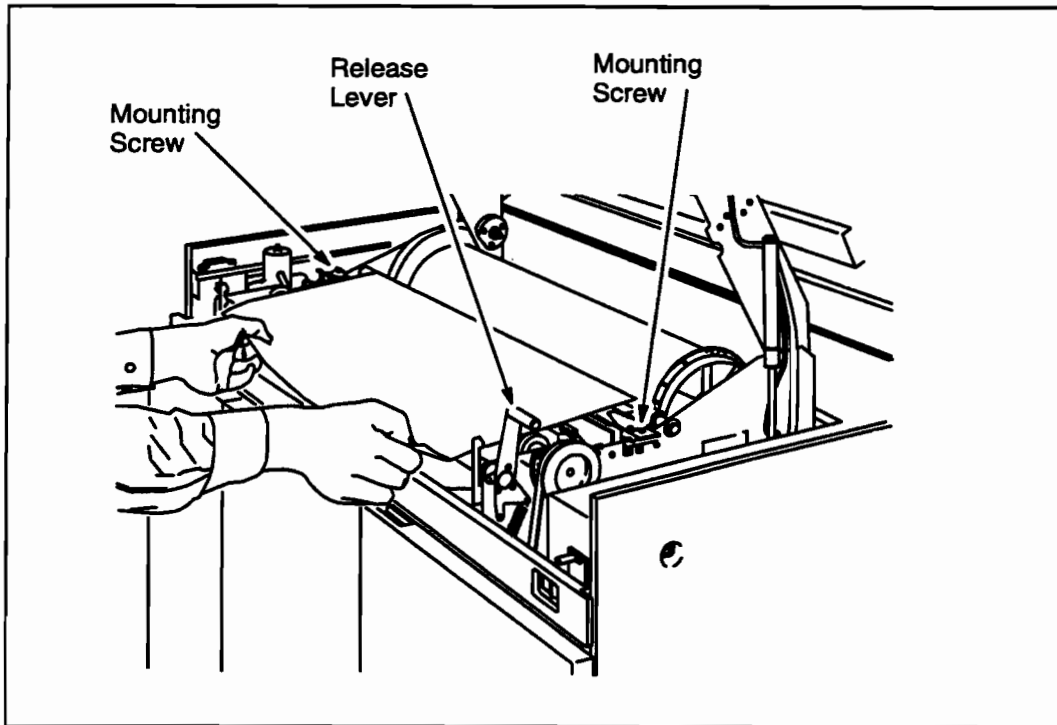

Figure 7-2. Writing Head Adjustment
4. Turn the plotter line switch to OFF (O) and disconnect the ac power cord.
6. Raise the upper frame by pulling the release lever, located in the near right corner of the upper frame, towards you. See Figure 7-2.